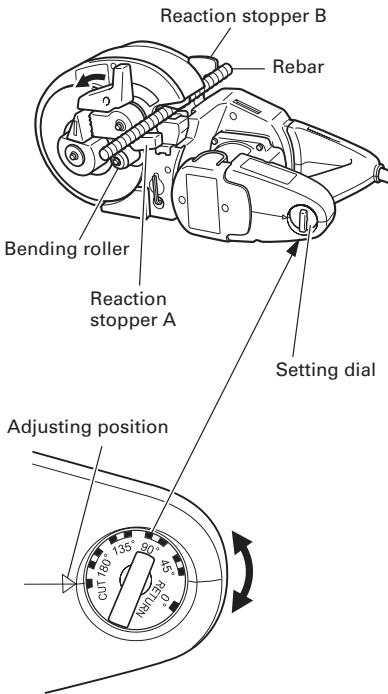

Fig. 2
1. Cutting (Fig. 2)
- (1) Turn the lever in the direction of the arrow mark and open the cover.
- (2) Set the setting dial at the “cut” position. (Turn the setting dial all the way clockwise.) (Fig. 2)
- (3) Set the unit in the position shown in Fig. 2.
- (4) Set the rebar to be cut on the lower cutter.
- (5) When the rebar is set, make sure that either the reaction stopper A or B is hitched to the rebar.
- (6) Pull the switch trigger and cut the rebar.